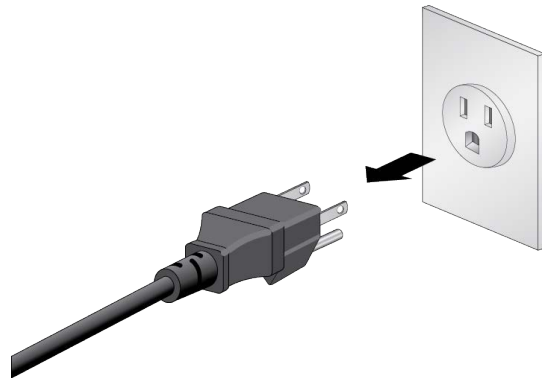

Figure 130. Powering Off the AC Power Supply
- ❑ For the AC power supply, disconnect the AC power cords from the AC power sources. Refer to Figure 130.